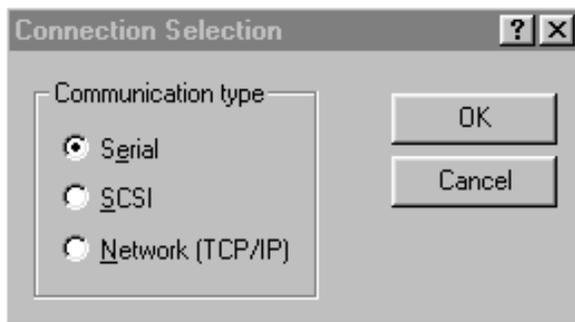

Figure 1-4. Connection Selection dialog box
1. Click *Start > Programs > Command Console > StorageWorks CC HSxxx*. The Connection Selection window appears, as shown in Figure 1-4.